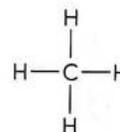

Figure 3.12: The structure of a methane molecule.
- 3 Methane is the simplest hydrocarbon (a compound of carbon and hydrogen *only*) and has the formula CH_4 (Figure 3.12).